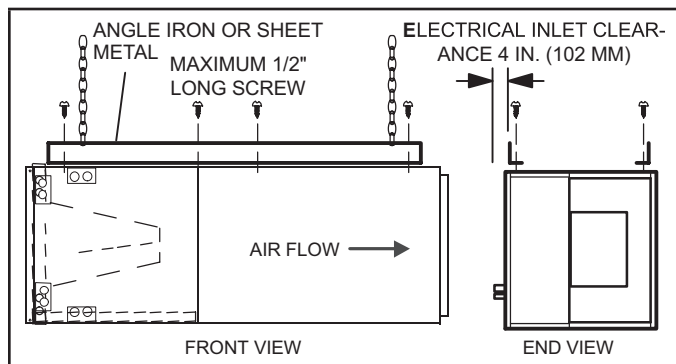

FIGURE 6. Suspending Horizontal Unit
- 5 - If the unit is suspended, the entire length of the cabinet must be supported. If you use a chain or strap, use a piece of angle iron or sheet metal attached to the unit (either above or below) to support the length of the cabinet. Use securing screws no longer than 1/2 inch to avoid damaging the coil or filter. See figure 6. Use sheet metal screws to connect the return and supply air plenums as required.
- 11 - If suspending the unit, it must be supported along the entire length of the cabinet. If using chain or strap, use a piece of angle iron or sheet metal attached to the unit (either above or below) so that the full length of the cabinet is supported. Use securing screws no longer than 1/2" to avoid damage to coil or filter, as illustrated in figure 6. Connect return and supply air plenums as required using sheet metal screws.